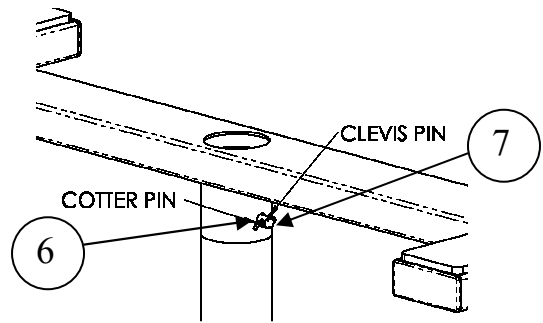

FIGURE 2
2. If you have an 8 or 9 foot ceiling skip to step 3. If you have a 7 foot ceiling, attach the Upper Frame (ITEM-1) directly to ITEM-3 by aligning the holes in ITEM-1 and ITEM-3 and inserting the Clevis Pin (ITEM-6) through the holes. After the Clevis Pin is inserted, place the Cotter Pin (ITEM-7) through the hole of the Clevis Pin and bend the end of the Cotter Pin to secure the Clevis Pin as shown in Figure 2.
3. If you have an 8 foot or 9 foot ceiling, attach the Upper Frame (ITEM-1) to the Extension Tube (ITEM-2) by aligning the holes in the large diameter tube of ITEM-2 with the set of holes in (ITEM-1) and inserting the Clevis Pin and Cotter Pin as previously done in Step 2 and shown in Figure 2.